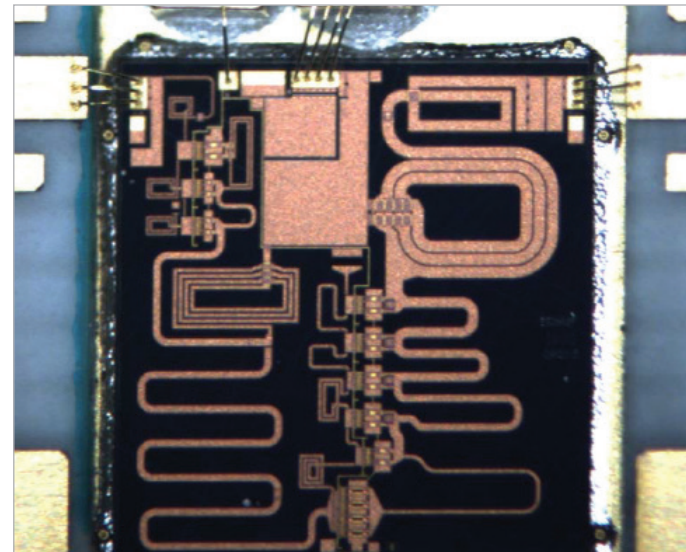

Figure 1: Photograph of the manufactured MMIC mounted to a test fixture. Die dimensions are 3.25 x 3.50 mm2.
Many modern microwave electronic systems specify amplifiers with high output power, wide bandwidth, and high efficiency. Until recently, most wideband high-power amplifier (PA) solutions have relied on vacuum electronics-based technologies. Recent work, however, shows steady progress in realizing high-power, high-frequency, wideband amplifiers utilizing GaN MMIC technology that operates from near DC up to 7 GHz. Qorvo designers were challenged to meet the requirements for an amplifier with high output power, wide bandwidth, and high efficiency by designing a 1-8 GHz PA MMIC fabricated with a 0.15  $\mu\text{m}$  GaN process technology. The process featured a 100  $\mu\text{m}$  thick silicon carbide (SiC) substrate and compact transistor layouts with individual source grounding vias (ISVs). The design utilized a non-uniform distributed power amplifier (NDPA) topology with a novel trifilar connected output transformer (Figure 1).